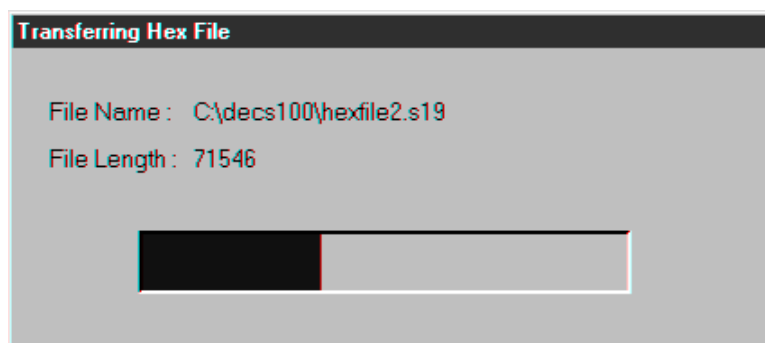

Figure 5-26. File Transfer Progress
6. Select the appropriate file for uploading and click the **Open** button to start the file transfer. A dialog box (Figure 5-26) indicating the progress of the file transfer is displayed.